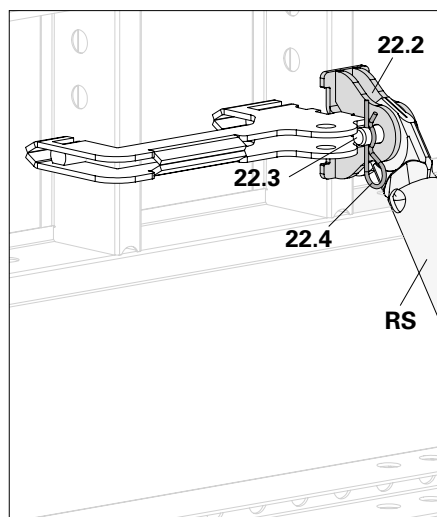

Fig. A6.03b
- Connect Push-Pull Prop (RS) and connection lugs (**22.2**) with bolts (**22.3**) and cotter pins (**22.4**). (Fig. A6.03b)